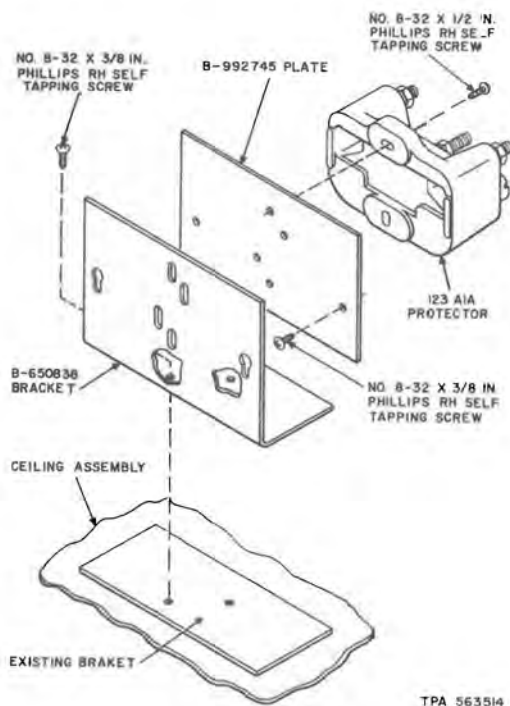

Fig. 9—Conversion of Protector Mounting Bracket
- Current models will have the protector mounted on a detachable plate (Fig. 9) for convenient access. Refer to Part 4 for conversion.